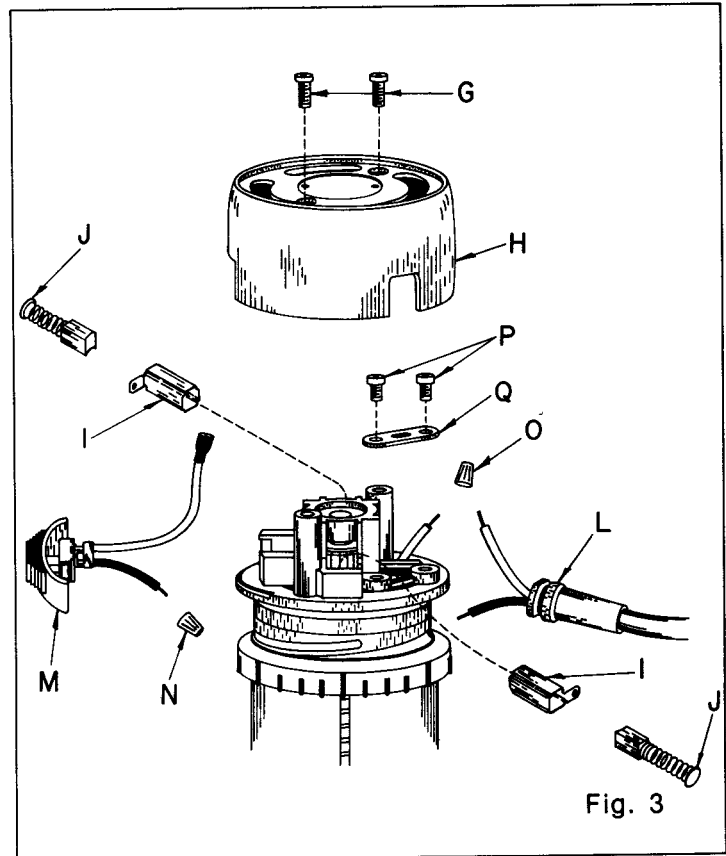

Fig. 3
2. Remove two screws (G) which secure the end cap (H) and lift end cap off. See Figure 3.
4. Unscrew wire connector (N) from the switch and cord leads. Pull the lead terminal on the other switch lead to remove it from the brush tube and remove switch from router.
4. Unscrew wire connectors (N and O). Remove two screws (P), clamping plate (Q) and cord.
5. Place the bend relief (L) on new cord. Make the lead connections by holding the proper leads together and tightening the wire connectors over them.
3. Remove brush tube (I) containing brush assembly (J) from the router.
7. Make sure bend relief (L), switch (M), and all leads are properly positioned.